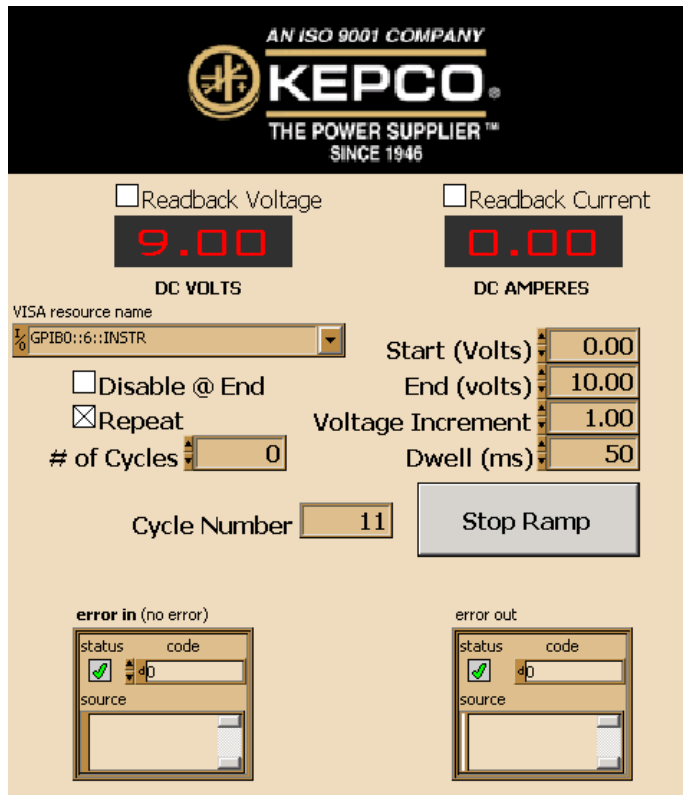

FIGURE 2-12. RAMP FUNCTION PANEL, CURRENT RAMP
- Readback Voltage, Readback Current. Once **Start Ramp** is clicked, checked causes the **DC VOLTS** and **DC AMPERES** indicators on the Ramp Function Panel (see Figure 2-12) to show measured voltage and current; unchecked causes the indicators to show the commanded values of voltage and current, respectively.
Clicking the **Start Ramp** button on the Software Ramp panel (Figure 2-11) causes the Ramp Function Panel (Figure 2-12) to be displayed as the ramp is being generated. Checking the **Readback Voltage** or **Readback Current** checkboxes above the **DC VOLTS** or **DC AMPERES** indicators cause the Voltage and Current indicators to show measured voltage and current vs. commanded values of voltage and current if unchecked.